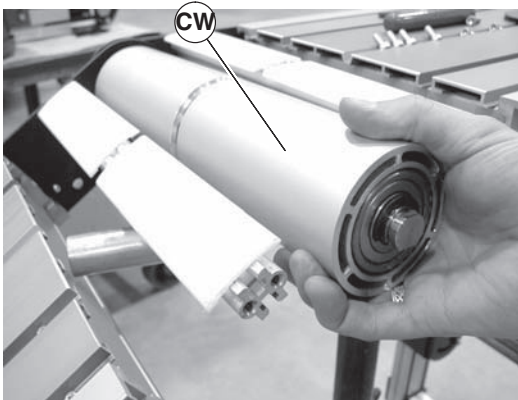

Figure 75
- Slide the idler pulley assembly (Figure 75, item CW) out of the knuckle plate on the opposite side.